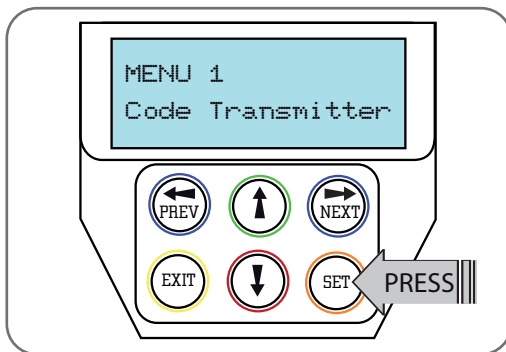

Fig 8.6
- Press SET to enter the code set procedure (Fig. 8.6).